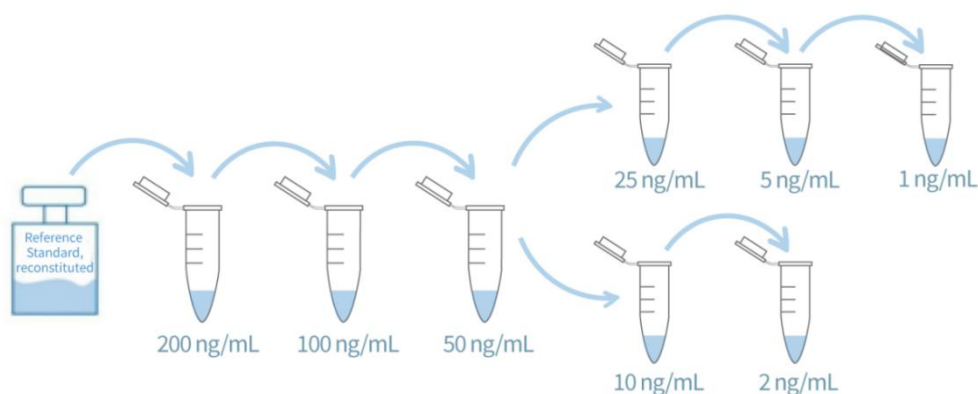

Figure 3. Graphic scheme of MDCK HCP Calibration Standard solutions
(3) Preparation of Calibration Standard Solutions
- Prepare MDCK HCP Calibration Standard solutions as indicated in Figure 3 and Table 3.